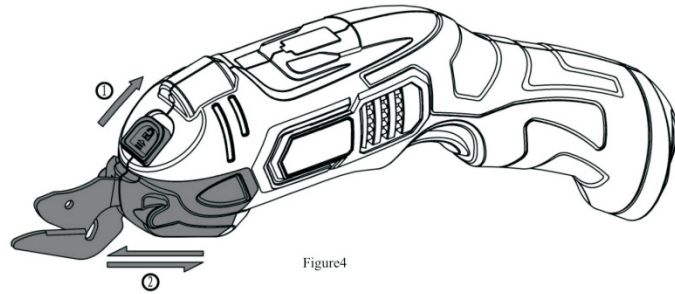

Figure 4
4. Change the shear head assembly (Figure 4)